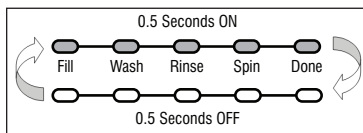

Figure 2 – Status LEDs flashing ON and OFF
- Turn cycle selector knob until the status LEDs flash ON and OFF (see figure 2, page 2).